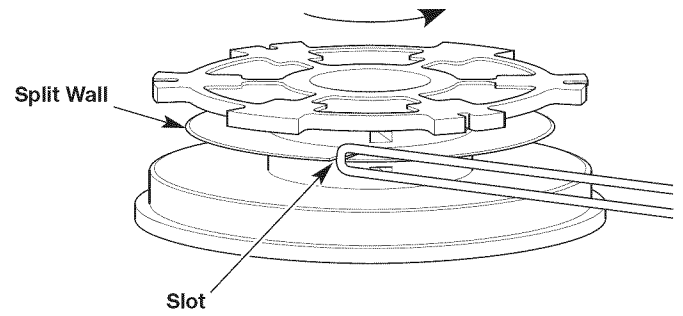

Fig. 12
2. Insert the loop into the slot in the split wall (Fig. 12). Wind the line tightly in the direction shown on the bottom of the inner reel until about 6 inches (150 mm) of line remains. Keep the top half of the line above the split wall and the bottom half of the line below the split wall.